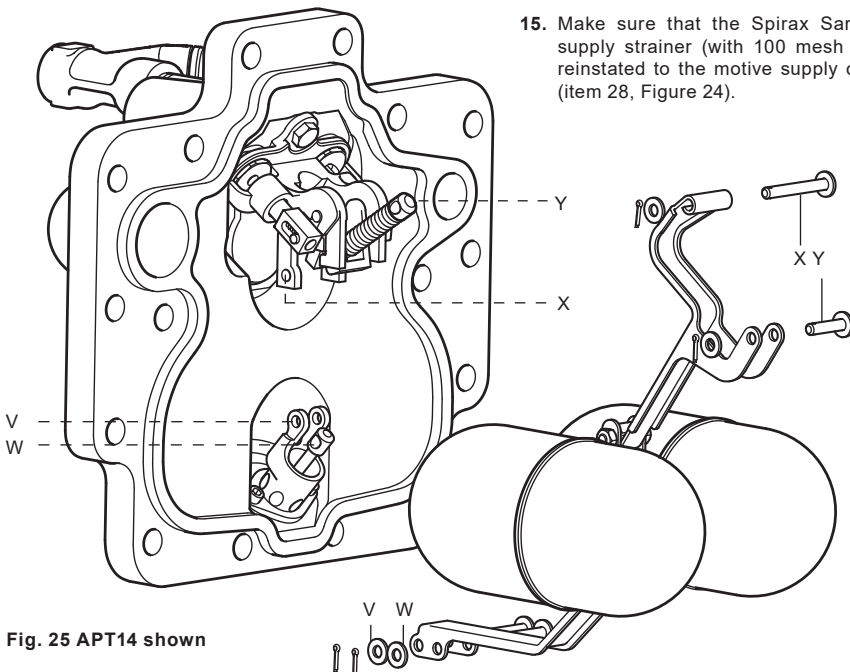

Fig. 25 APT14 shown
10. It is easier to fit the replacement shafts in the following sequence:- (See Figure 25).
3. Carefully fit a new gasket (item 2) into the existing body.
4. Remove split pin, washer and shaft from the trap pivot (V) (See Figure 25).
5. Remove split pin, washer and shaft from the trap 1st stage valve (W).
6. The floats and levers (items 5, 6 ,7) can now be swung out of the way leaving access to the trap and check valve assembly.
7. Using the 4 mm Allen key unscrew the two M5 cap screws (item 21).
12. Tighten the two M5 cap screws (item 21) to 5 ± 1 N m (4 ± 0.7 lbf ft).